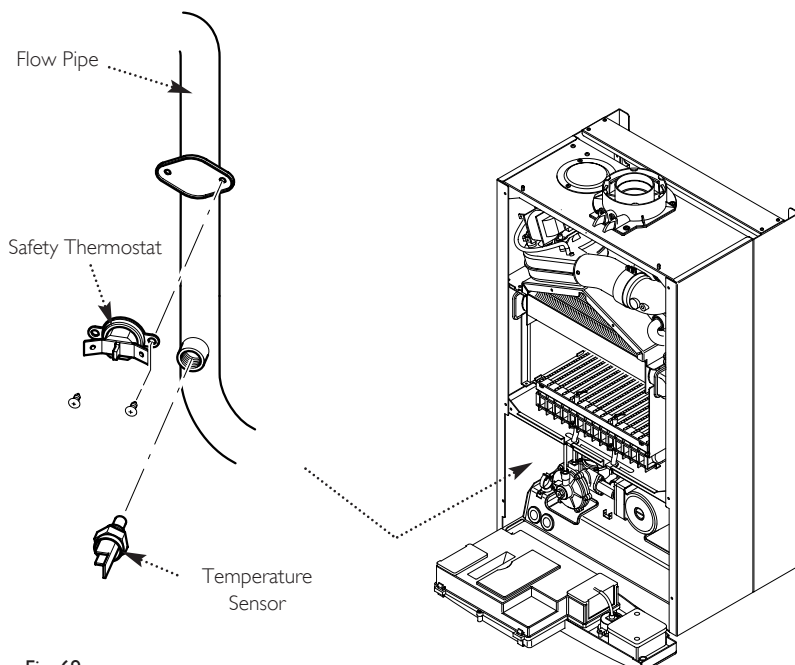

Fig. 69
14.9 Temperature Sensor (Fig. 69)
14.10 Safety Thermostat (Fig. 69)